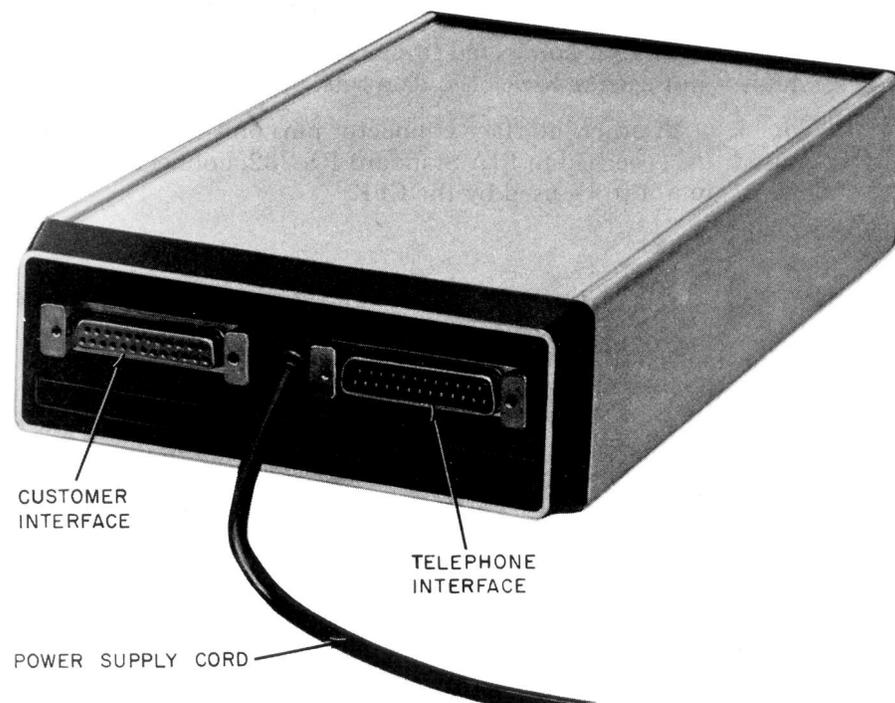

Fig. 3—DS 113CR-L1A/2—Rear View
3.02 The customer interface conforms to EIA Standard RS-232-C. The 25-pin female connector is not part of the data set card but is provided on the mounting (Fig. 3). The connector